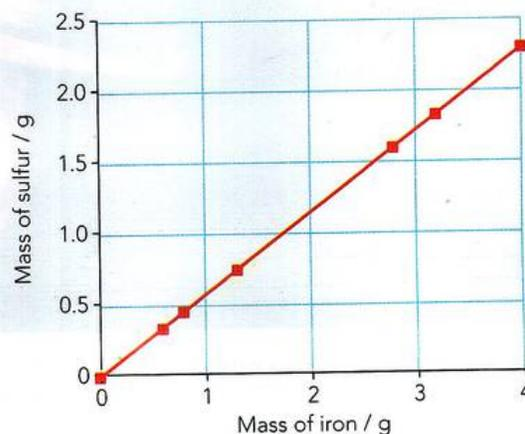

Figure 5.3: Experiments on heating iron with sulfur show that the two elements react in a fixed ratio by mass to produce iron sulfide.
If you take any compound, e.g. iron sulfide (FeS), it will always contain the same elements, in this case iron (Fe) and sulfur (S). The two elements in iron sulfide are always present in the same ratio by mass. The relationship can be determined experimentally. When increasing amounts of iron are heated with sulfur, the mass of sulfur that combines also increases. When the results are plotted on a graph you see a straight-line relationship (Figure 5.3) indicating that the elements combine in a fixed ratio by mass. How can we make the link between the mass ratio and the chemical formula of a compound? To do this we need to use the concept of the mole.